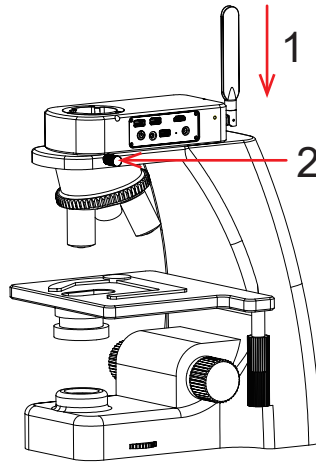

Figure 6
- 1) Snap the smart embedded camera to the objective end of the microscope, oriented as in Figure 6;